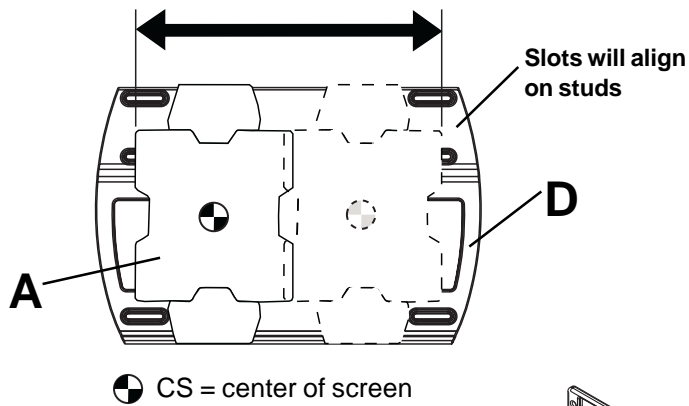
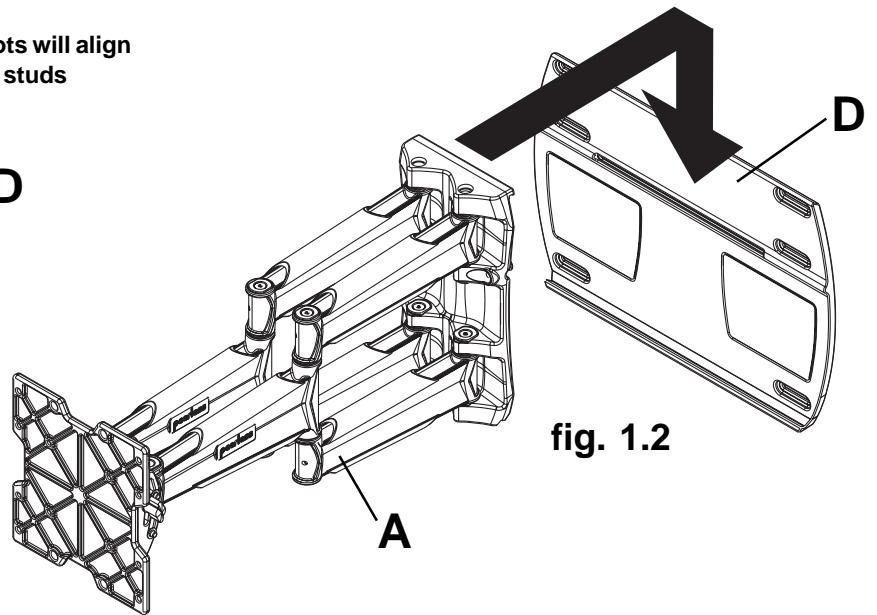

fig. 1.1
fig. 1.2
- 1** **NOTE:** If mounting wall plate (D) to wood stud wall surface, slots on wall plate (D) must align to studs.
- Determine desired location of screen center (refer to step 2) as shown in fig. 1.1, then hook arm onto wall plate (D) as shown in fig. 1.2.